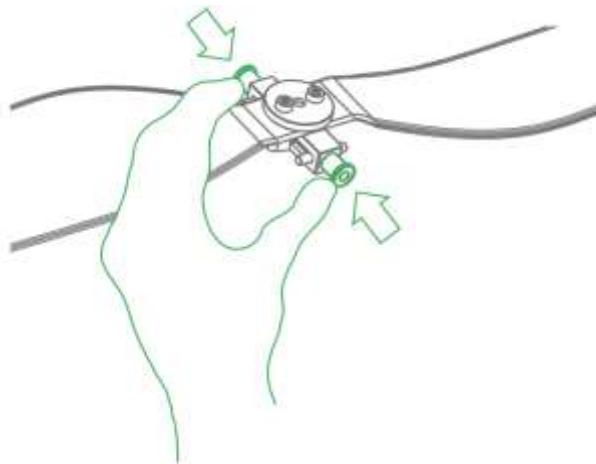

Figure 3-34
Step 1 Press the spring buckle on both sides of the propeller center, as shown in Figure 3-34.